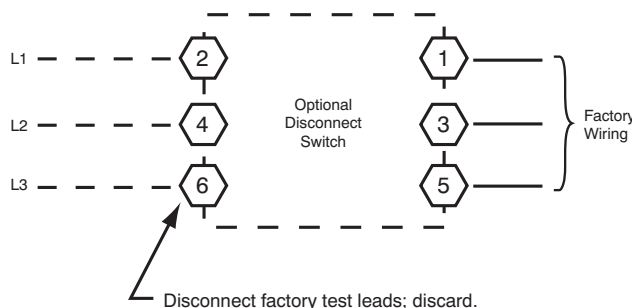

Fig. 25 — Power Wiring Connections
The field power wires are connected to the unit at line-side pressure lugs on compressor contactor C and indoor fan contactor IFC (see wiring diagram label for control box component arrangement) or at factory-installed option non-fused disconnect switch. Maximum wire size is #2ga AWG (copper only) per pole on contactors and #2ga AWG (copper only) per pole on optional disconnect. See Fig. 25 and unit label diagram for field power wiring connections.
The factory-installed option non-fused disconnect (NFD) switch is located in a weatherproof enclosure located under the main control box. The manual switch handle and shaft are shipped in the disconnect enclosure. Assemble the shaft and handle to the switch at this point. Discard the factory test leads (see Fig. 25).
All field wiring must comply with NEC and all local codes. Size wire based on MCA (Minimum Circuit Amps) on the unit informative plate. See Fig. 25 and the unit label diagram for power wiring connections to the unit power terminal blocks and equipment ground. Maximum wire size is #2ga AWG (copper only) per pole on contactors. See Fig. 25 and unit label diagram for field power wiring connections.
2. Install power lines to terminal connections as shown in Fig. 25 on page 16.